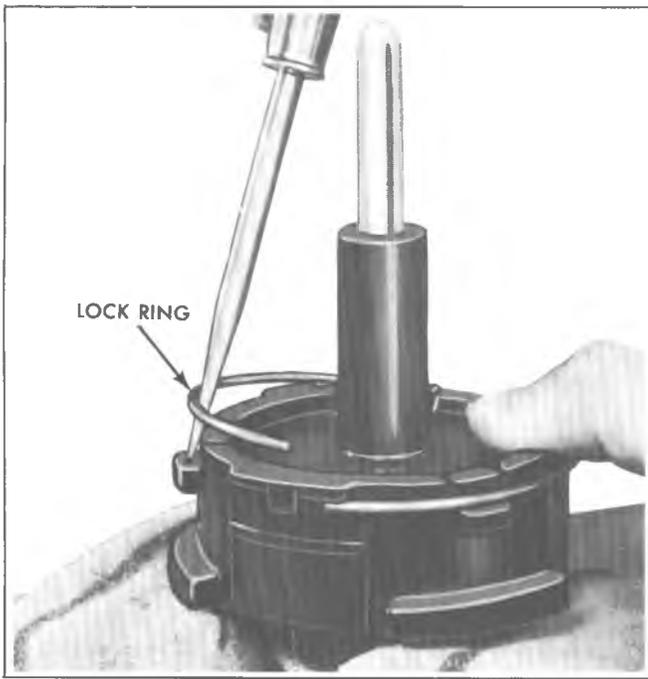

Fig. 5-6C--Removing Lock Ring From Power Piston
3. Remove lock ring from power piston by prying one end out from under large divided locking lug and then proceed to pull ring from under other two locking lugs on power piston (fig. 5-6C).